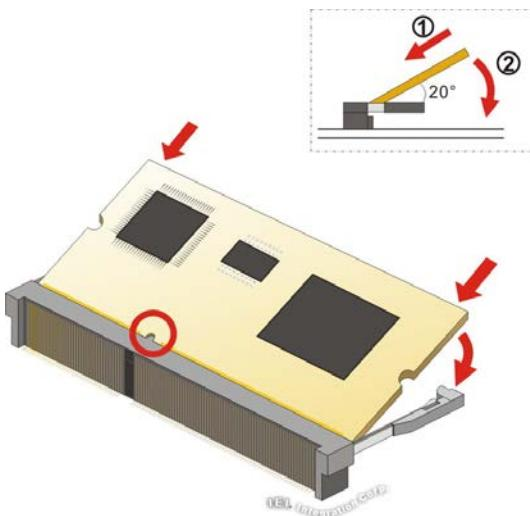

Figure 4-7: iRIS-2400 Module Installation
To install the iRIS-2400 module, please follow the steps below and refer to **Figure 4-7**.
Step 3: Insert the iRIS-2400 module. Push the module in at a 20° angle (**Figure 4-7**).
Step 4: Seat the iRIS-2400 module. Gently push downwards and the arms clip into place (**Figure 4-7**).